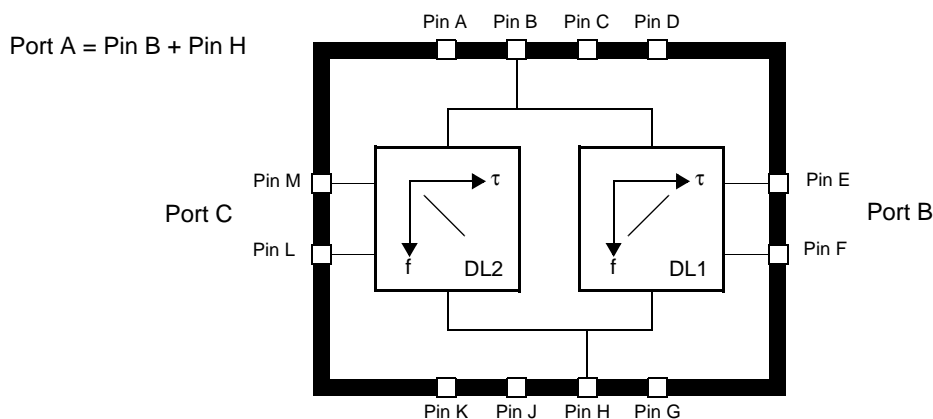

Figure 1: Complementary Dispersive Delay Line schematic
7. This is most important to distinguish between the respective output ports of the 3 ports in Figure 1: <Emphasis Footnote>"Complementary Dispersive Delay Line schematic" on page 1–1.